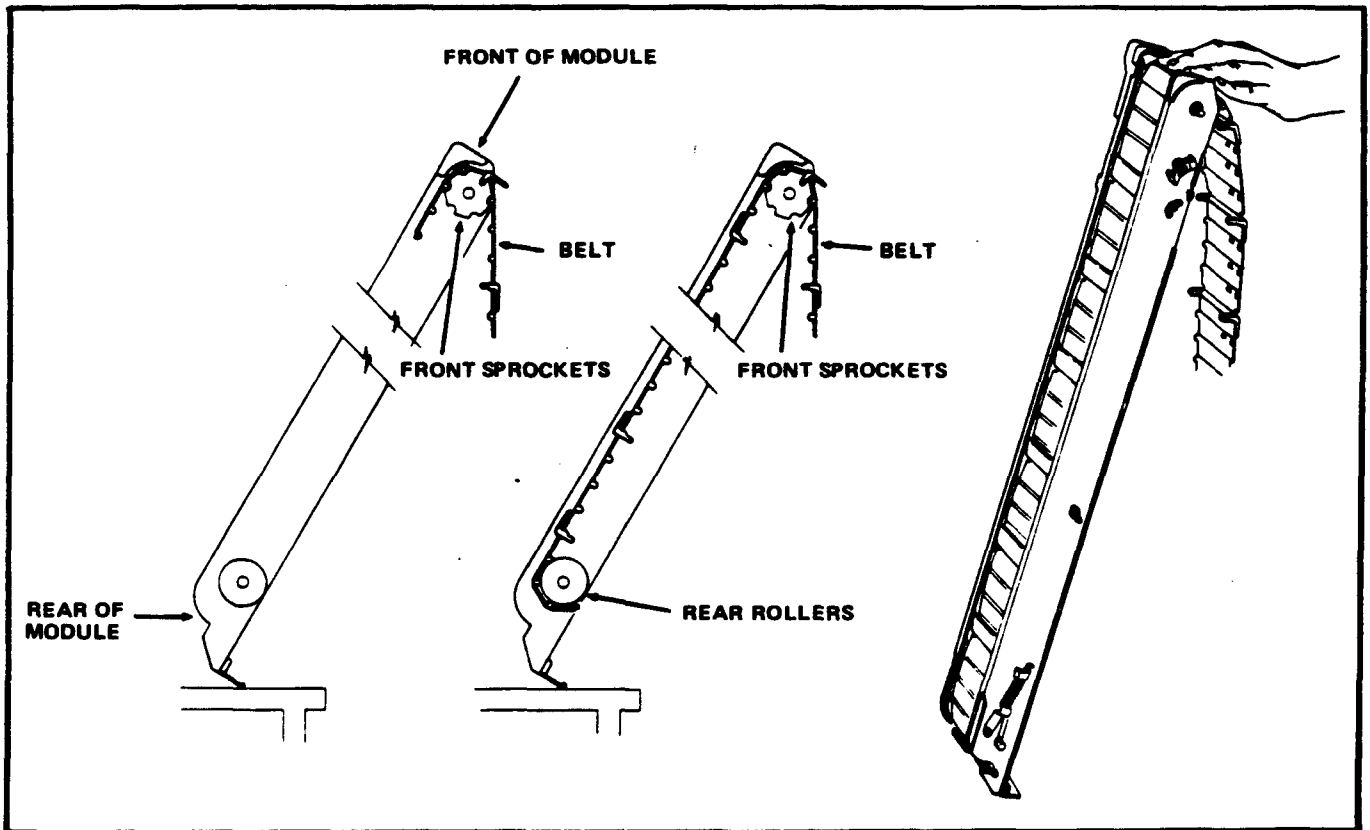

FIGURE 12
12. Holding the Belt in place on the Front Sprockets, stand the Module on its rear end and carefully thread the Belt through the front of the Module. See Figure 12.
13. Pull the Belt through the Module until it reaches the Rear Rollers. See Figure 12.